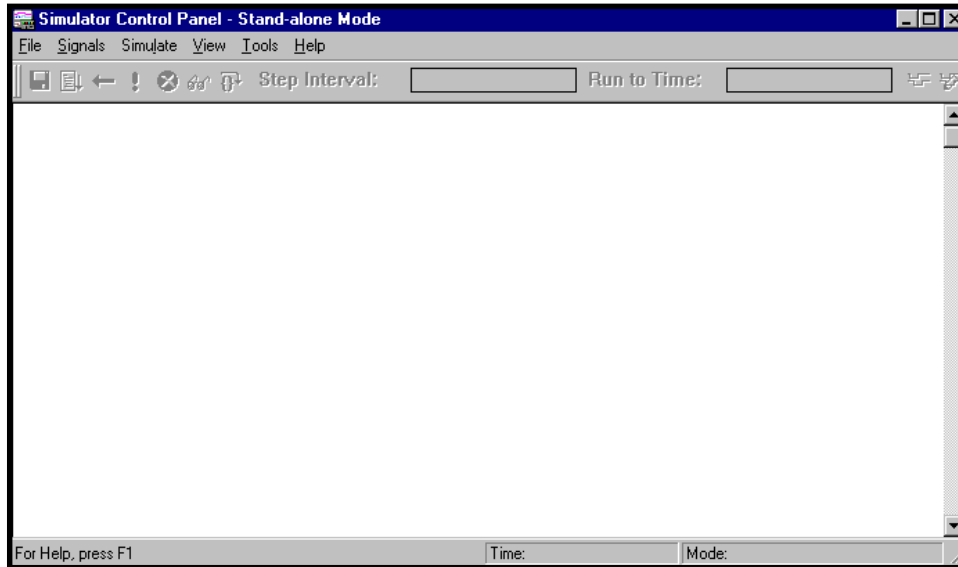

Figure 2-4. Simulator Control Panel - Stand-alone Mode
1. Select **Tools** ⇒ **Lattice Logic Simulator** from the Project Navigator. The Simulator Control Panel window appears (Figure 2-4) in its stand-alone mode.